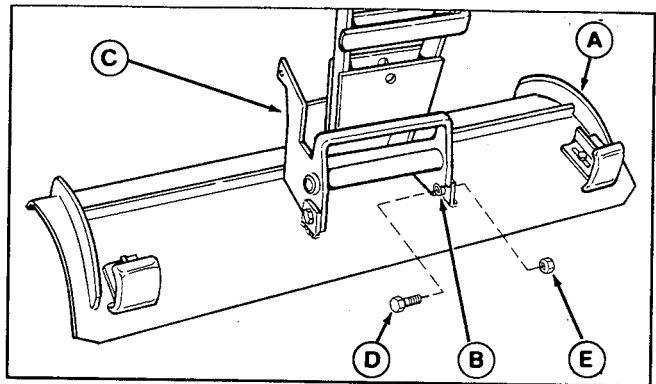

Figure 2
1. Insert one spacer (B, figure 2) in each one of the two mounting holes in the push bar (C). Position the push bar between "mounting ears" on backside of blade. Push the 1/2-13 x 1 capscrews (D) through as shown and install locknuts (E). Torque locknuts to 75ft. lbs. (103 Nm).